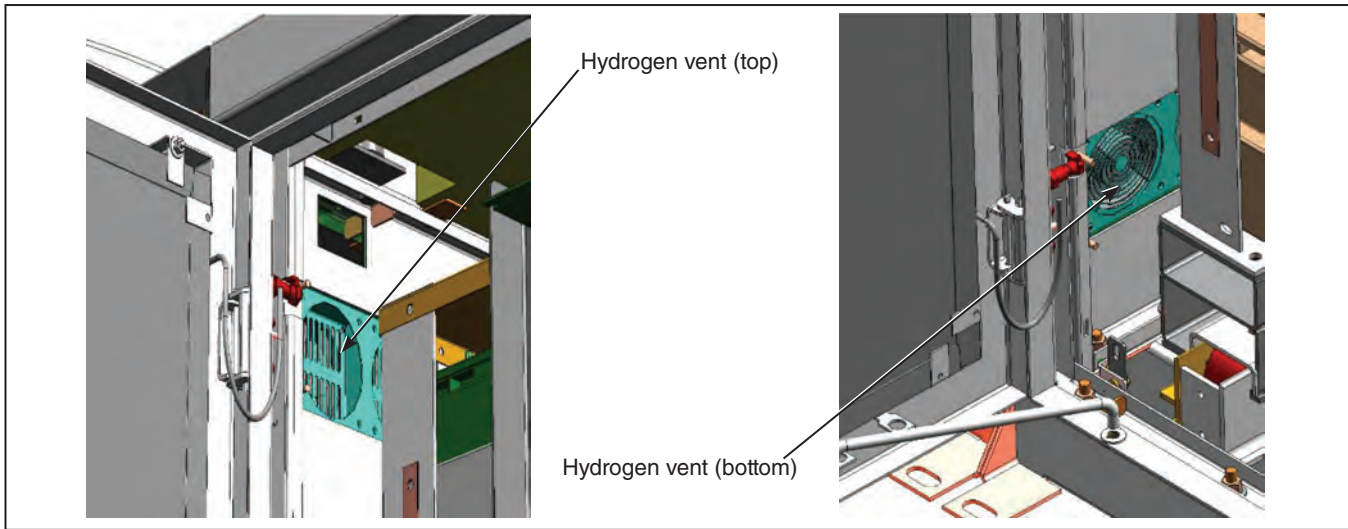

Figure 23. Location of the hydrogen vents in the battery bay.
- Inspect the top and bottom hydrogen vents located along the inside wall of the bay. Clean any debris or obstructions that can restrict air flow. See Figure 23 for the location of the hydrogen vents.